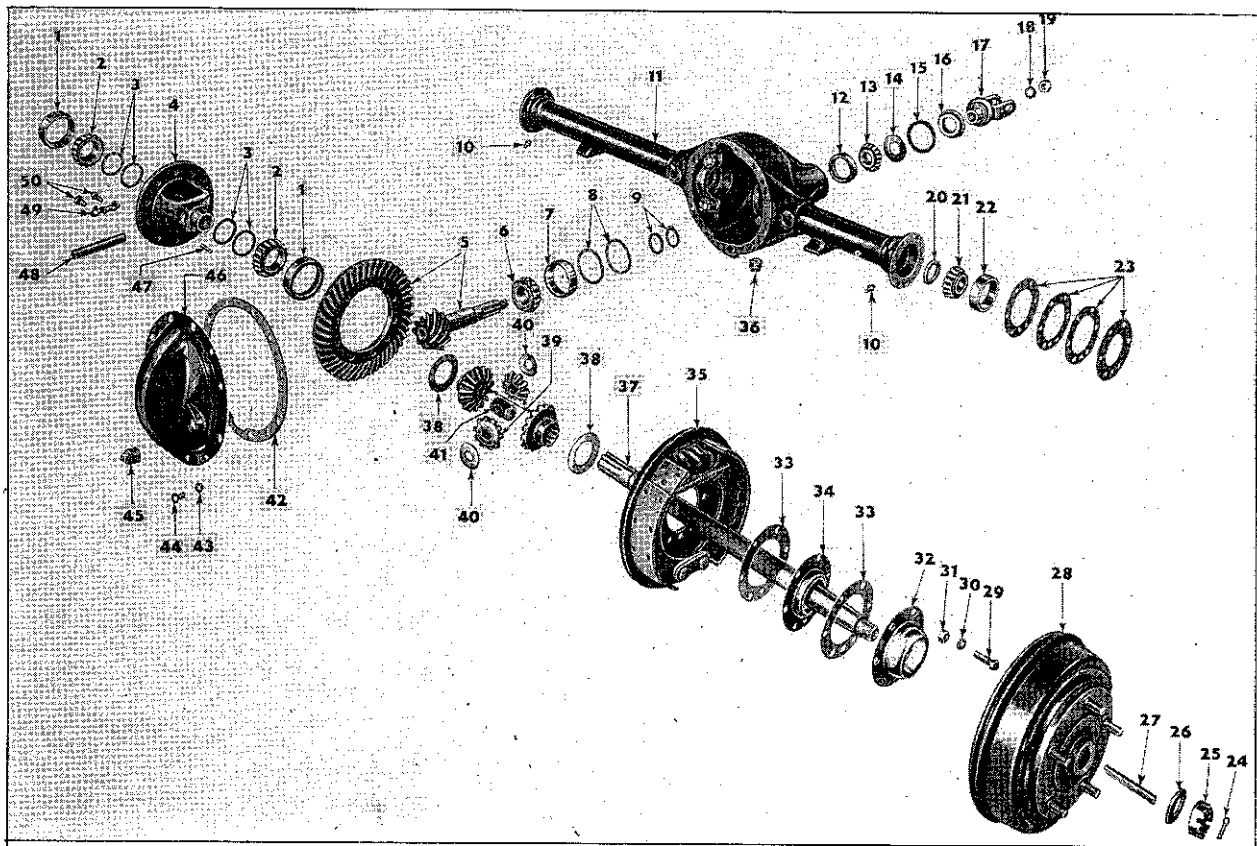

FIG. 274—SEMI-FLOATING, HYPOID REAR AXLE
NOTE: If ring gear bolt locking straps (Fig. 274, No. 49) are not present, install them using longer screws (50).